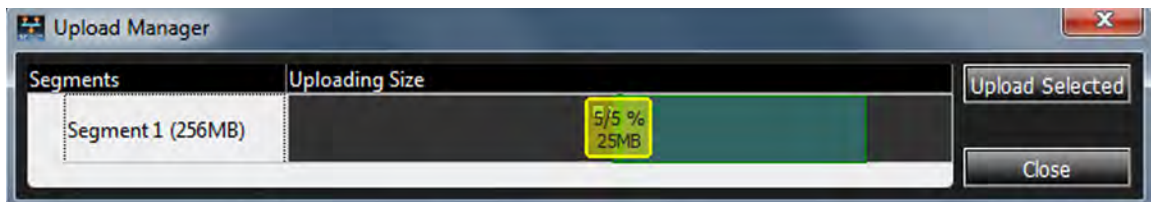
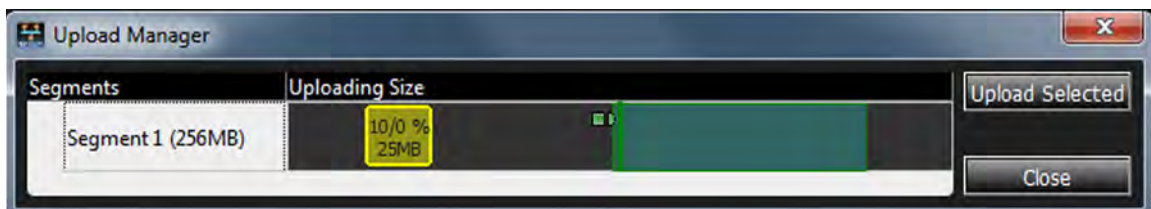

Figure 3.33: Shrinking the Trace Around the Trigger Point
Figure 3.34: Upload a Section of the Trace
3. You can continue making the Trace smaller, so that it is concentrated around the trigger point (see Figure 3.33), or you can slide the section of the Trace you want to recover from the beginning to the end of the Trace. See Figure 3.34.